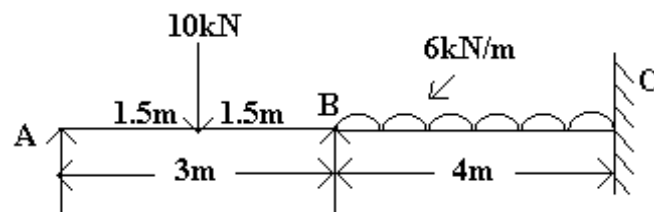

Figure 3:
7. Using Flexibility method of analysis find the support moments for the two-span continuous beam loaded as shown in Figure 3 Sketch the BMD. ($E I = \text{constant}$). [16]